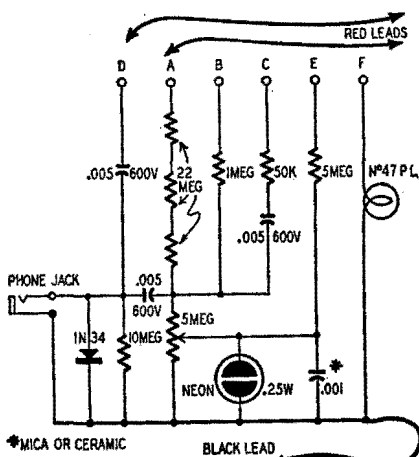

Fig. 401. The circuit of the TV Service Aid is quite simple.
**For measuring plate and screen voltages** and taking other readings in low-voltage supplies. The hot lead is connected to terminal B (See circuit diagram, Fig. 401) with black ground lead clipped to chassis. The 5 meg control potentiometer is then slowly varied until the neon bulb just barely fires. Voltage is read directly from the calibrated scale, which is graduated from 80 to 1,000 volts. (It was found after considerable experiment that the average neon lamp could not be made to fire at less than about 70 volts. This of course prevents it being used for bias